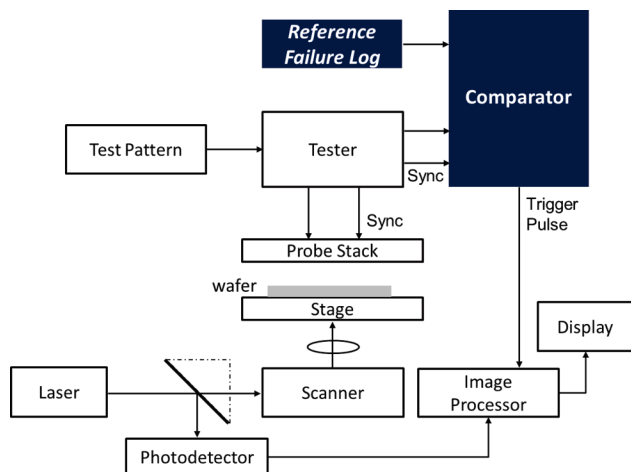

Fig. 1 Block diagram of EeLADA concept
Both of these conditions can be seen in the optical images in Fig. 1.
Fig. 1 (a) Optical image showing overall view of the failed capacitor. Note dendrite growth at upper right and the reflowed termination solder with heat-stress discoloration on the right side. (b) Closeup of dendritic growth from termination onto the cap face
Figure 1 shows a block diagram illustrating the EeLADA concept. In general, although the setup refers to a wafer-level configuration, it applies to package level as well. Unlike a typical synchronous LADA setup where the tester generates a trigger in the event of a flip in the test state, EeLADA integrates an additional comparator module to determine the trigger pulse generation. The integrated circuit (IC) device under test is activated by the tester, which refers to the test pattern for the biasing conditions. A test pattern is defined by a three-dimensional matrix of test vectors that correspond to specific pin names and cycle numbers. The test vectors may represent inputs or outputs. Inputs serve as driving signals into the IC, and outputs, also called compare test vectors, provide the expected states to determine a test pass-fail.
Prior to debug on EeLADA, the bad IC is tested, and a standard failure log containing details of the compare fail vectors and the respective fail pin/cycles is obtained. This is referred to as the reference failure log, as shown in Fig. 1, and is called the reference failure signature. The comparator module receives this fail log and commits it to memory. As the tester activates the soft failing IC and the